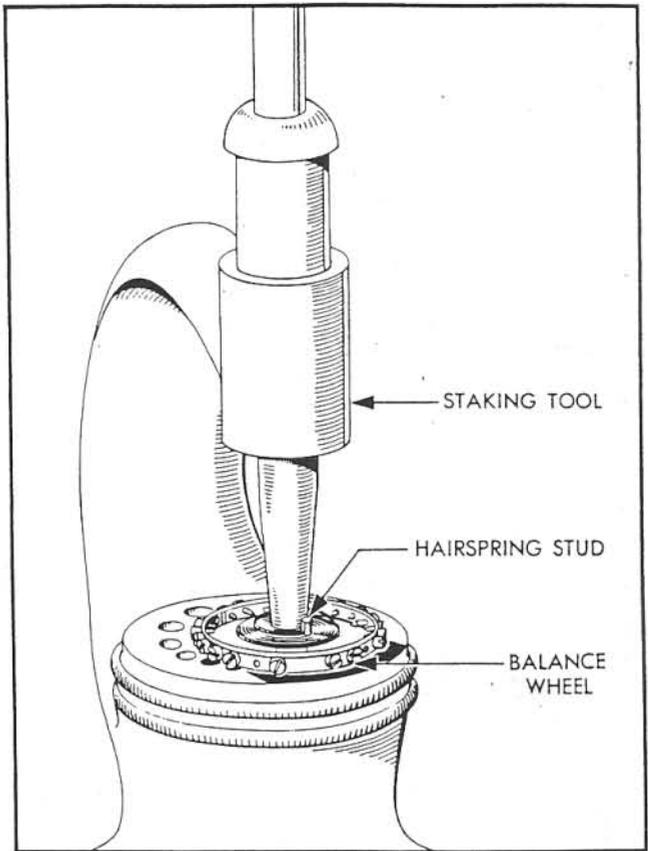

Figure 30—Assembling Hairspring to Balance Wheel
(8) **BALANCE WHEEL.** (See figure 30.)